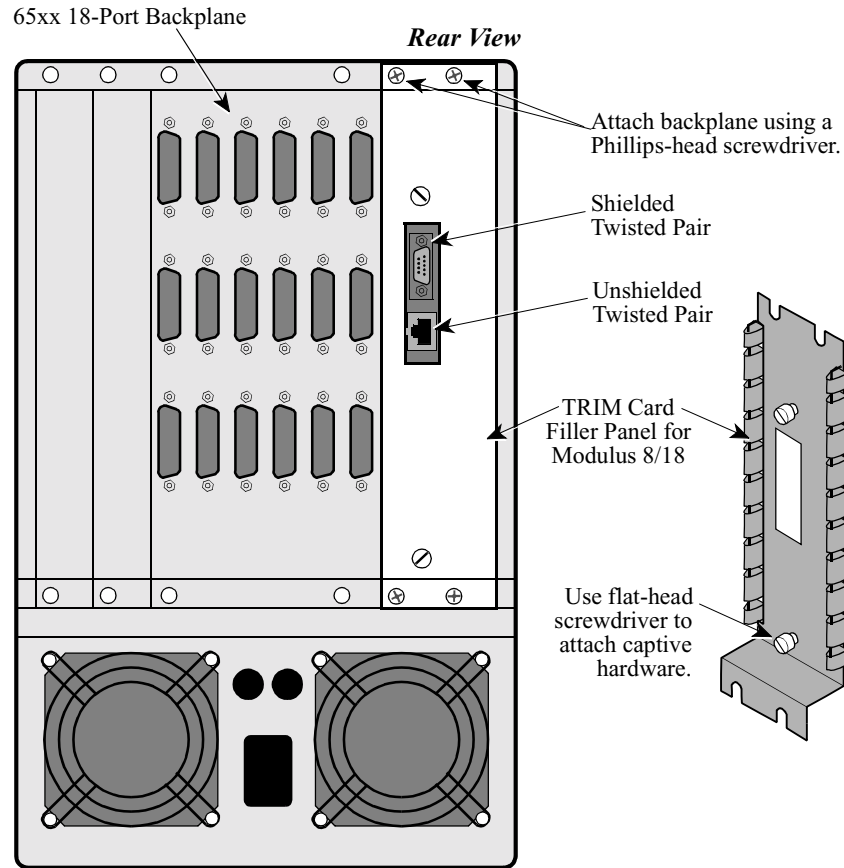
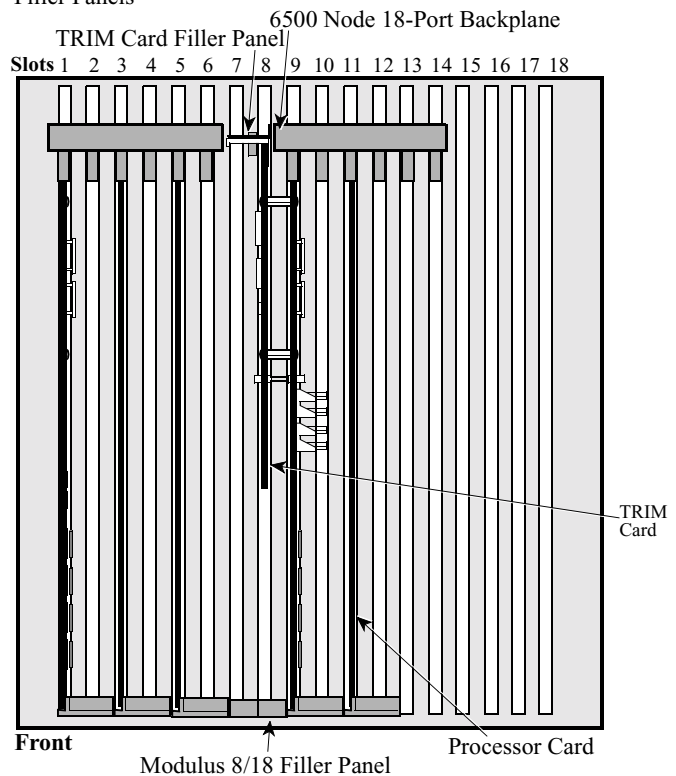
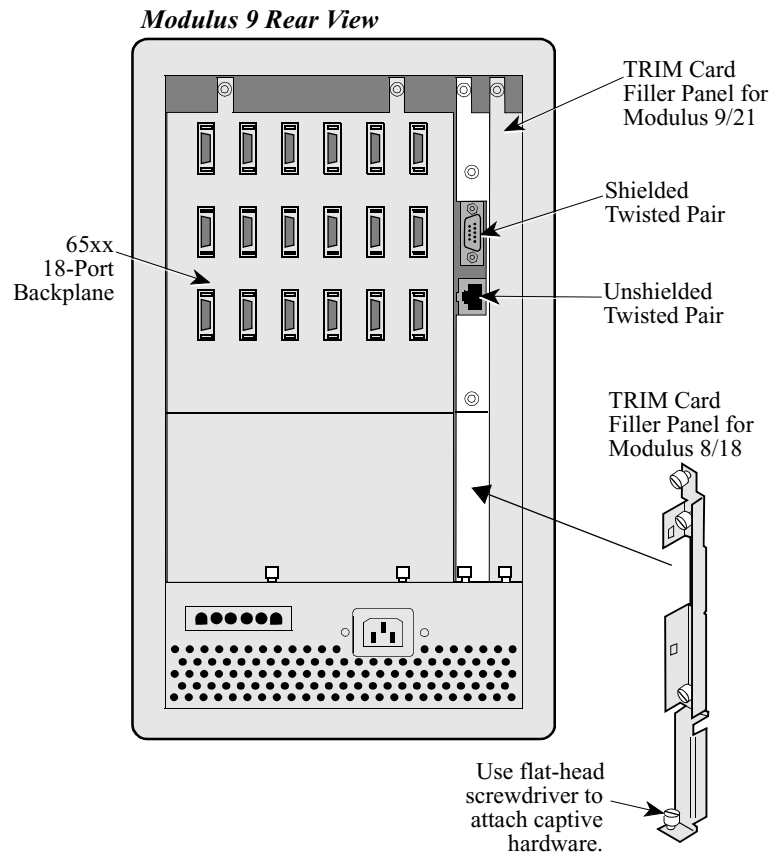

Figure 2-8. TRIM Card Rear Filler Panel for Modulus 8/18 Enclosures
Figure 2-9. TRIM Card Spacing in a Modulus 18 Enclosure
Figure 2-10. TRIM Card Rear Filler Panel for Modulus 9/21 Enclosures
Modulus 8/18 Nests The TRIM card has its own backplane and attaches to the solder side of the 6500^{PLUS} processor card. The TRIM card requires two Modulus slots. The TRIM filler panel for Modulus 8/18 nests is two slots wide as shown in Figure 2-8.
- The TRIM card rear filler panel covers the back of the two slots taken by the TRIM card. This rear panel, which has a cutout for the LAN port connectors, covers the TRIM card backplane (Figure 2-8). Two standard Modulus 8/18 front filler panels cover the front of the TRIM card's slots (Figure 2-9).
Figure 2-9 shows the TRIM card spacing in a Modulus 18 enclosure.
Modulus 9/21 Nests The TRIM card has its own backplane and attaches to the solder side of the 6500^{PLUS} processor card. The TRIM card requires two Modulus slots. The TRIM filler panel for Modulus 9/21 nests is one slot wide as shown in Figure 2-10.
2	Attach the TRIM rear filler panel to the enclosure. <ul style="list-style-type: none"> • If you are installing the TRIM card in a Modulus 8/18 enclosure, use a Phillips-head screwdriver to attach the TRIM rear filler panel to the backplane with the four screws provided (Figure 2-8). • If you are installing the TRIM card in a Modulus 9/21 enclosure, use a flat-head screwdriver to attach the captive screws on the top and bottom of the rear filler panel to the backplane (Figure 2-10). Attach a standard Modulus rear filler panels as needed.
2	Using a flat-head screwdriver, attach the captive screws on the TRIM rear panel to the TRIM card backplane (Figure 2-10).